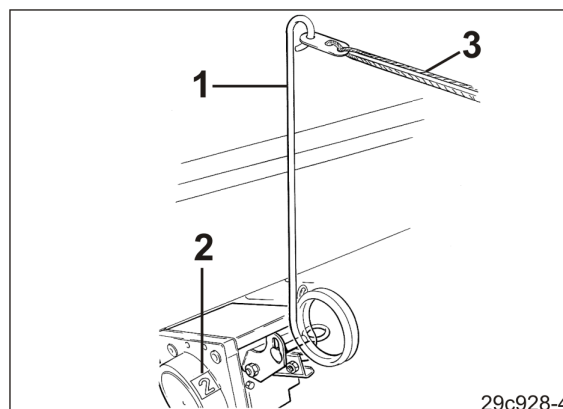

Fig. 207
3. Set the tramline counter just before starting work by pulling on the operating lever (Fig. 207/1). The current tramline counter is displayed in the window (Fig. 207/2) of the control box. Only actuate the operating lever using the rope (Fig. 207/3) in the tractor cab.